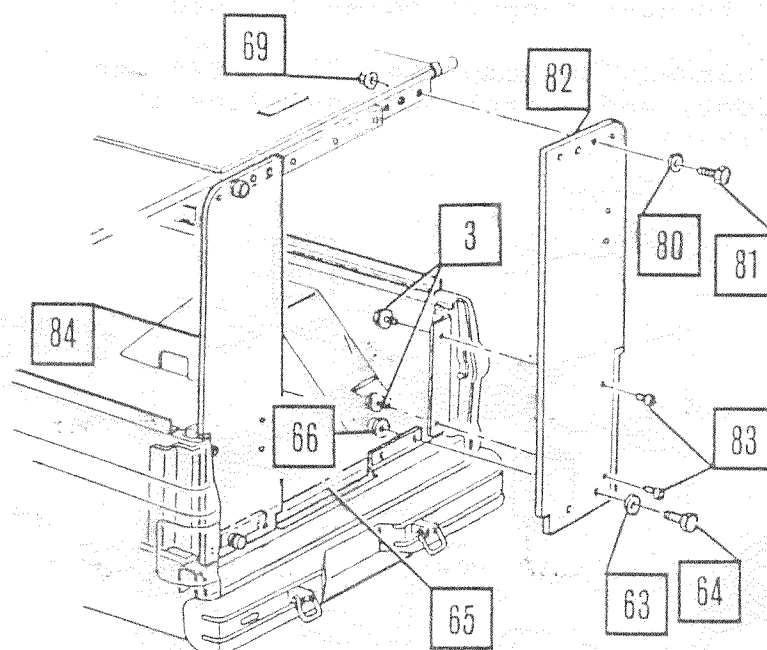

Figure 20.
69. Attach right and left rear side panel assemblies on upper outer holes with nut, bolt and washers (Figure 20.).
70. Attach panels to side brackets on right and left sides with "T" nuts and bolts (Figure 20.).
72. Install rear door seal molding by alining with existing holes in the floor insulator and using as a template, drill four 13/32 inch holes from the inside out in panel assemblies, and install nut and bolt in outer holes (Figure 20.).